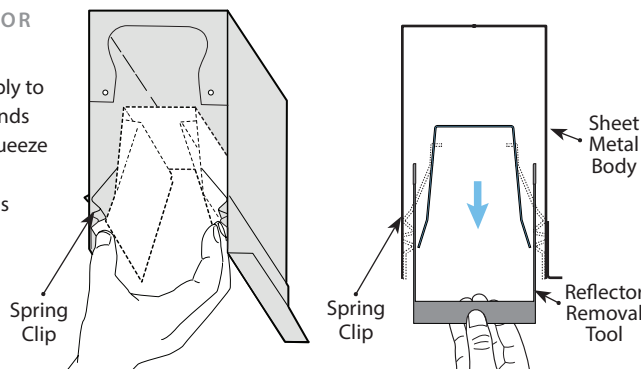

FIGURE 3
6. Apply plaster around flange (Figure 3).